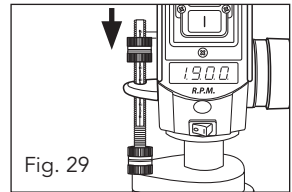

Fig. 29
4. Lock the setting in place by screwing the top depth stop screw downwards (Fig. 29).